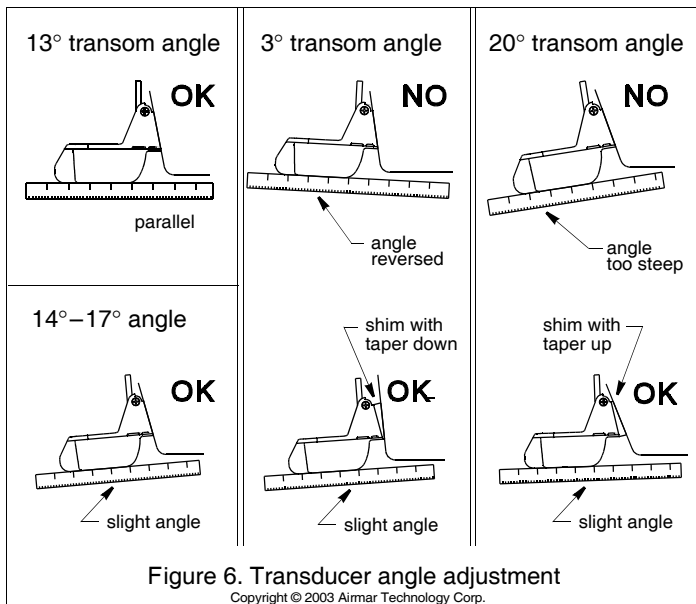

Figure 6. Transducer angle adjustment
1. Using a straight edge, sight the underside of the transducer relative to the underside of the hull (see Figure 6). The trailing edge of the transducer should be 1–3mm (1/16–1/8") below the leading edge or parallel to the bottom of the hull.